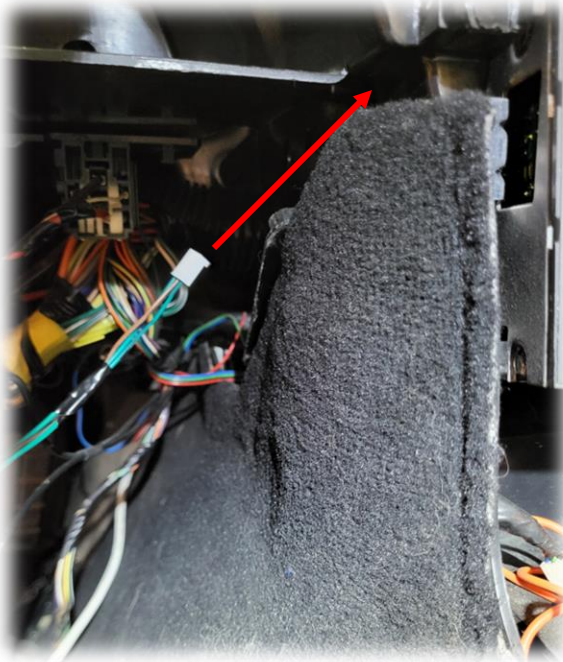
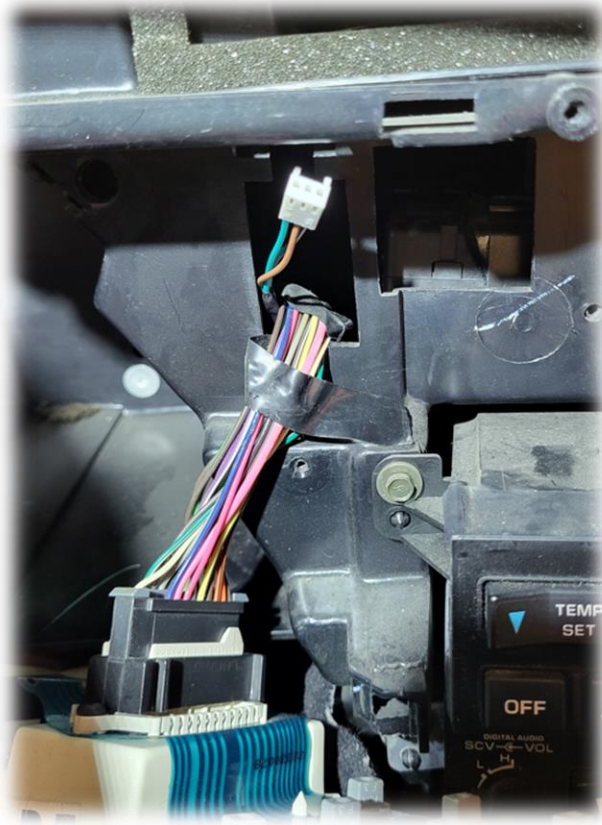

Figure 3
Figure 4
5. Route 3 pin connector labelled "DIC" from under cluster bezel, up and behind DIC display cavity in dish. It will come out the same hole where main DIC harness comes through. Figure 3 and Figure 4.